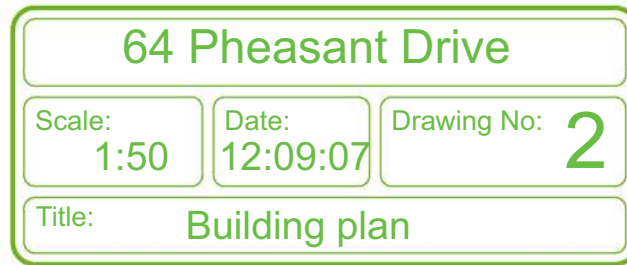

Fig. 15.1 The title block from Drawing number 2 of the sheet set drawings
1. Construct a template **64 Pheasant Drive.dwt** based upon the **acadiso.dwt** template, but including a border and a title block. Save the template in a **Layout1** format. An example of the title block from one of the drawings constructed in this template is shown in Fig. 15.1.